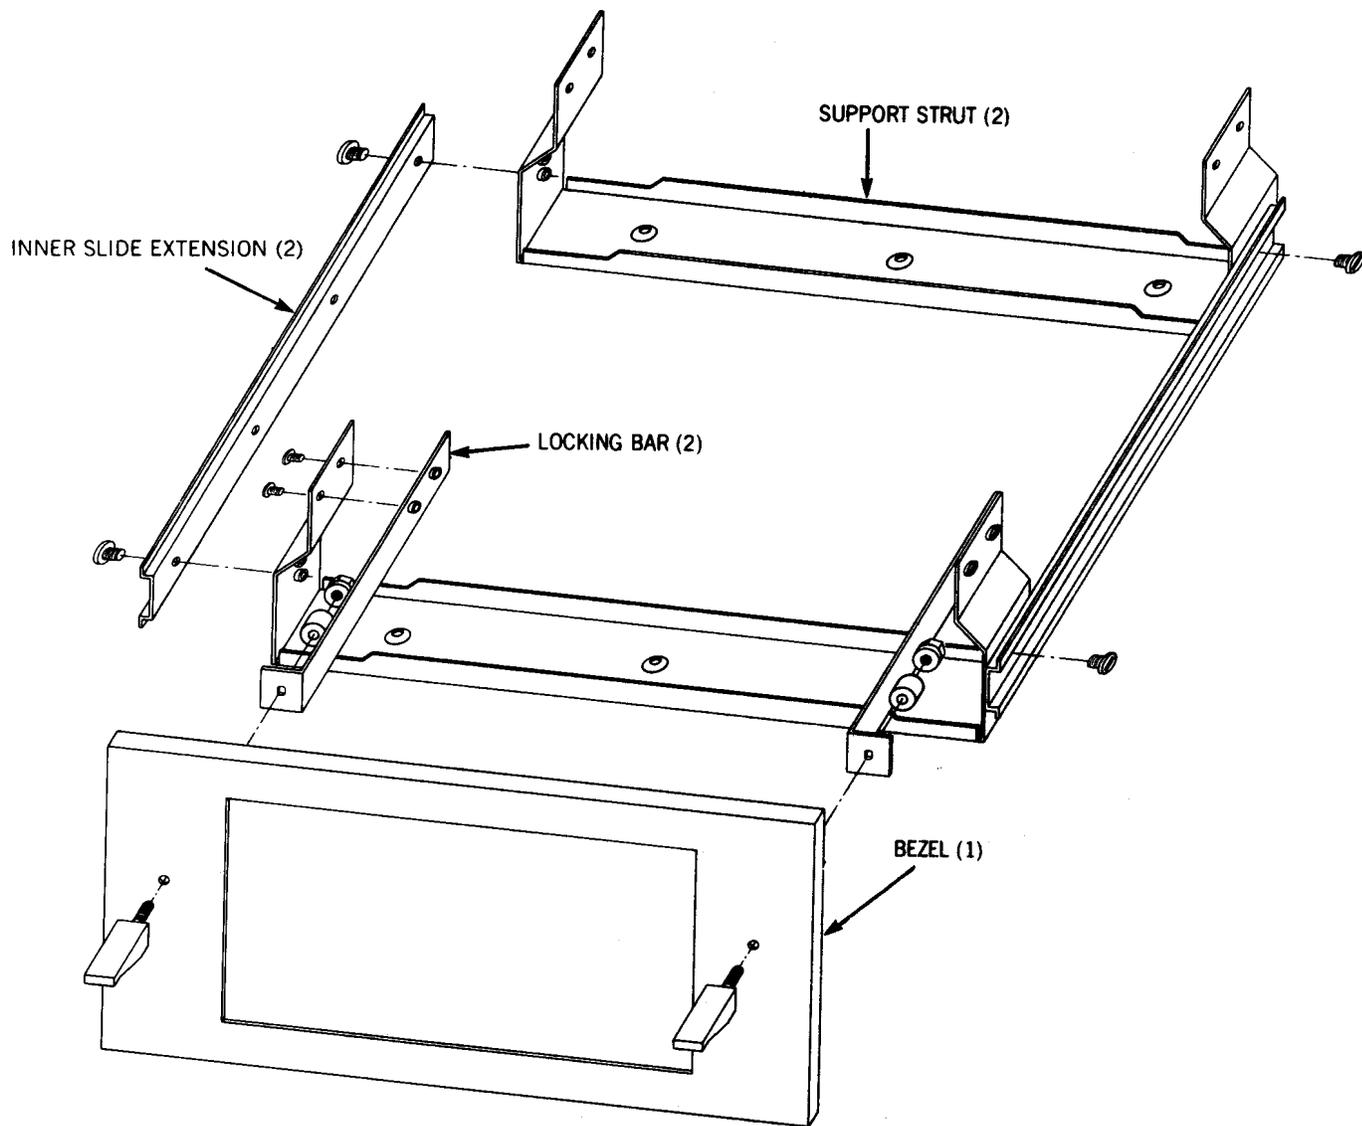

Fig. 8—Rack Slide Assembly Installation Components
13.01 To install the 19 inch flush rack mount and slides, proceed as follows (refer to Figures 8 and 9):